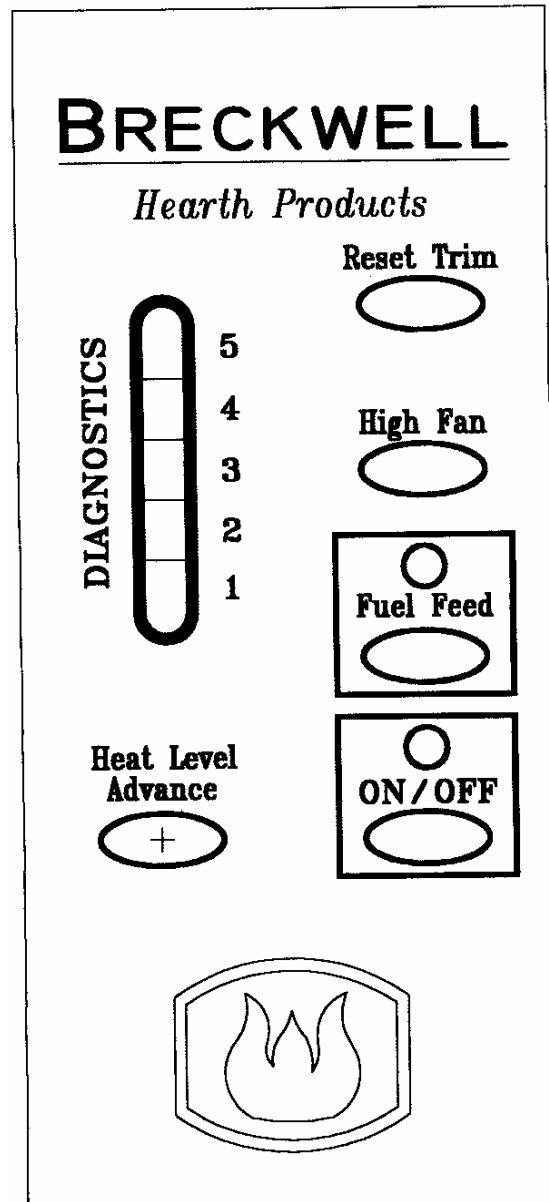

FIGURE 21
PANEL CONTROLS (See Figure 21)
- The green light located above the On/Off button (in the On/Off box) will flash during the ignition start-up period. (See figure 21)
- While the stove’s auger system is feeding pellets the green light (in the “Fuel Feed” box) will be on. (See figure 21)